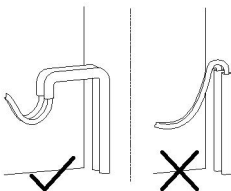

Fig.1
- To prevent rainwater from entering into the cable, arrange the cable as show in Fig.1.